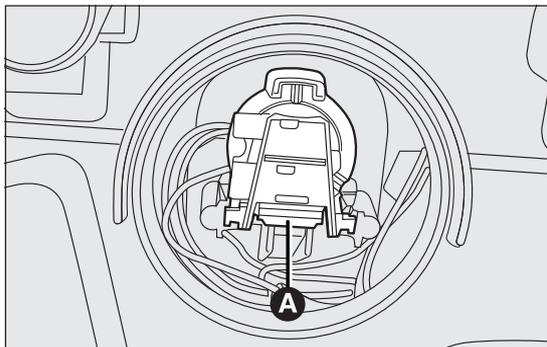

fig. 113
- press the fastener A fig. 113 and remove the bulb holder;